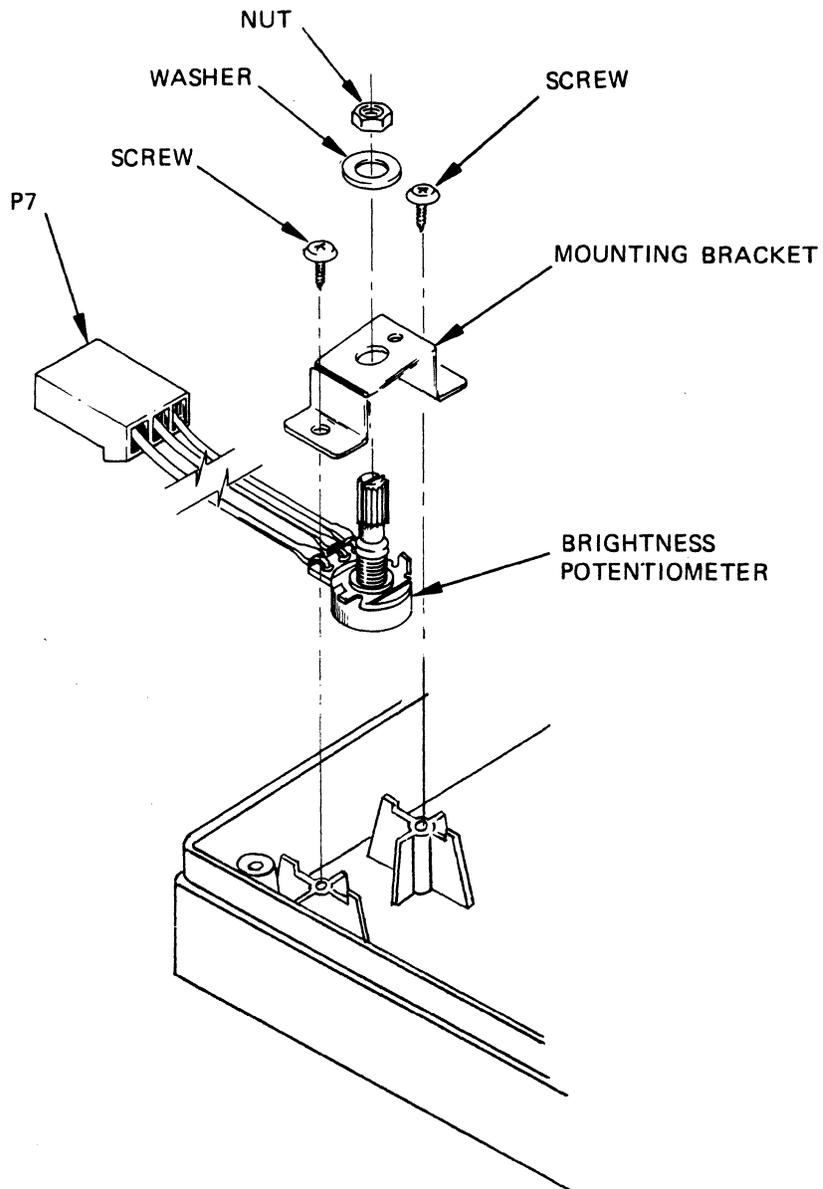

Figure 2-9. Brightness Potentiometer Removal and Replacement
3. Remove the two screws that secure the brightness control and mounting bracket to the bottom cover. See Figure 2-9.